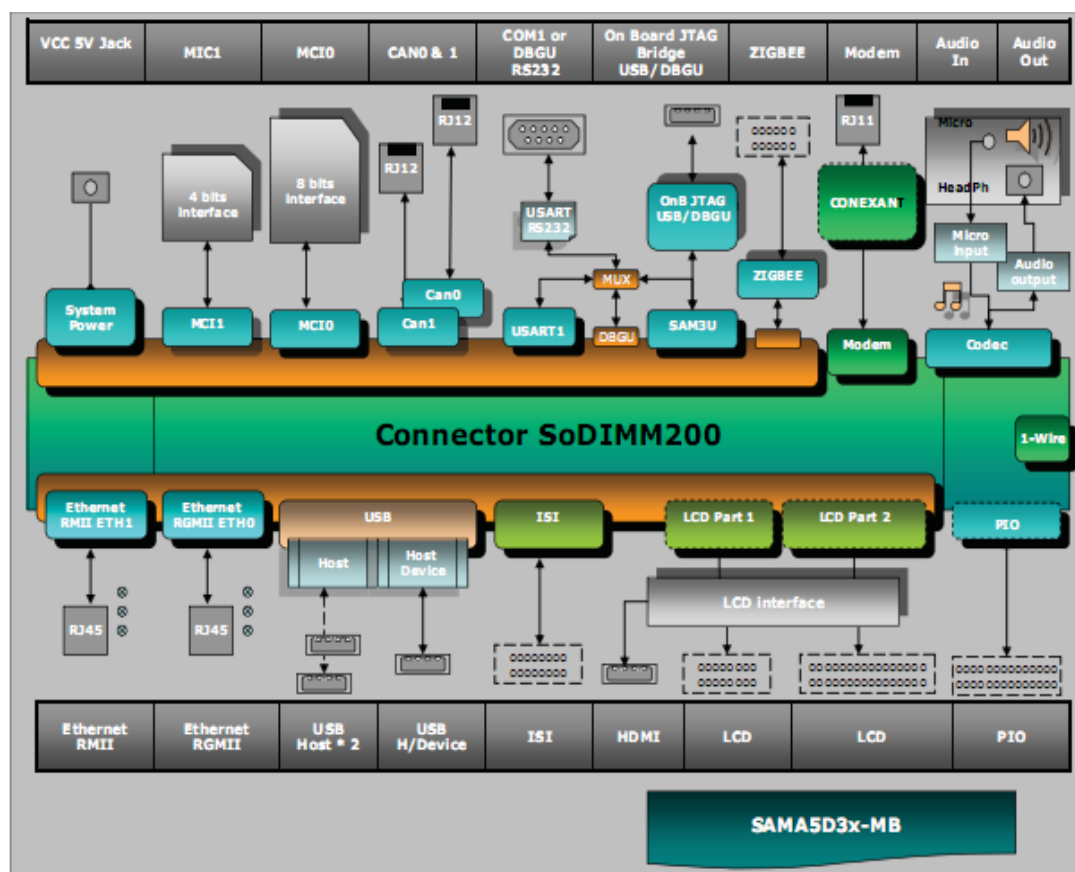

Figure 2-1
(1) CPU module architecture is shown in figure 2-1: